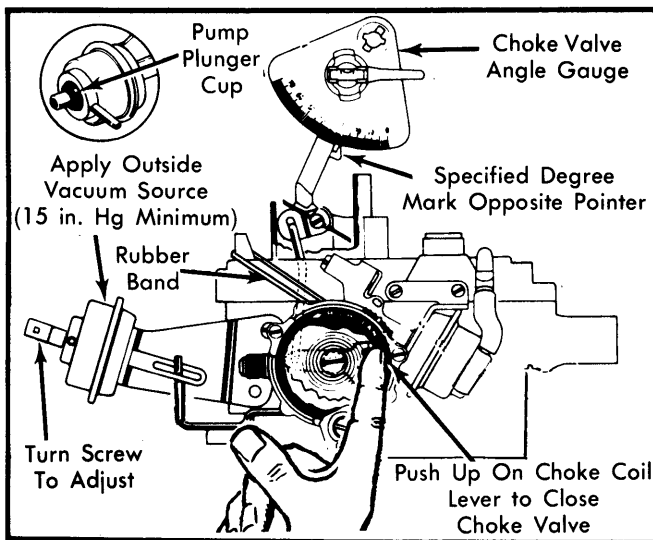

Fig. 7 Adjusting Rear Vacuum Break
1) Remove vacuum break from carburetor. Place bracket in vise and grind off tamper-resistant adjustment screw cap. Reinstall vacuum break unit. On delay models with air bleed, plug end cover using an accelerator pump plunger cup. Using an outside vacuum source of at least 15 in. Hg, seat vacuum diaphragm. See Fig. 7. Remove cup after adjustment.